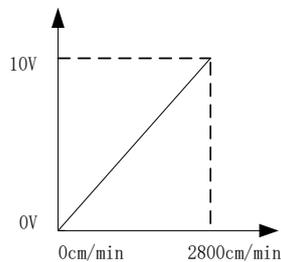

Figure 5-11 Corresponding relation of given wire feeding
1. Corresponding relation of given wire feeding speed is shown in Figure 5-11.